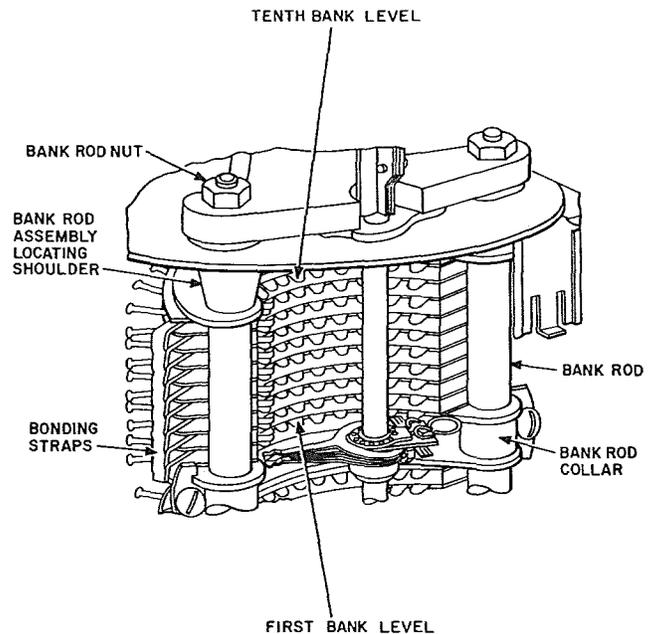

Fig. 3—Alignment of Wipers with the Bank Levels
**2.10 Alignment of Wipers With Bank Levels:** Fig. 3